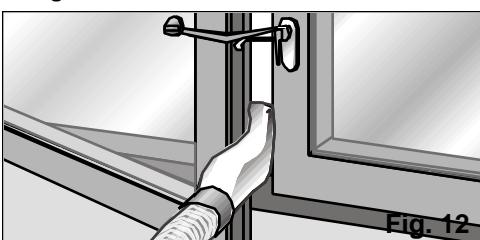

Fig. 12
- ❑ Close the window as far as possible and secure it with the suction pad supplied, Fig. 12.